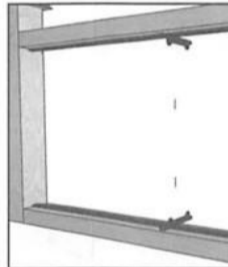

Figure 4
**STEP 3** Once the rails have been positioned, mount a bracket onto one of the middle pre-punched swivel holes on each rail by using the rail screws supplied (#10, 1 1/2 inch) (*Figure 4*). Drive the screw perpendicular through the bracket hole and matching rail swivel hole, in order to hold the bracket and rail in place.